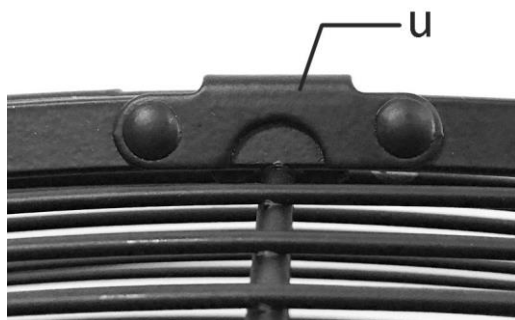

fig.15
1. Put the hook (u) of the front grille on the top of the rear grille. (fig.15)